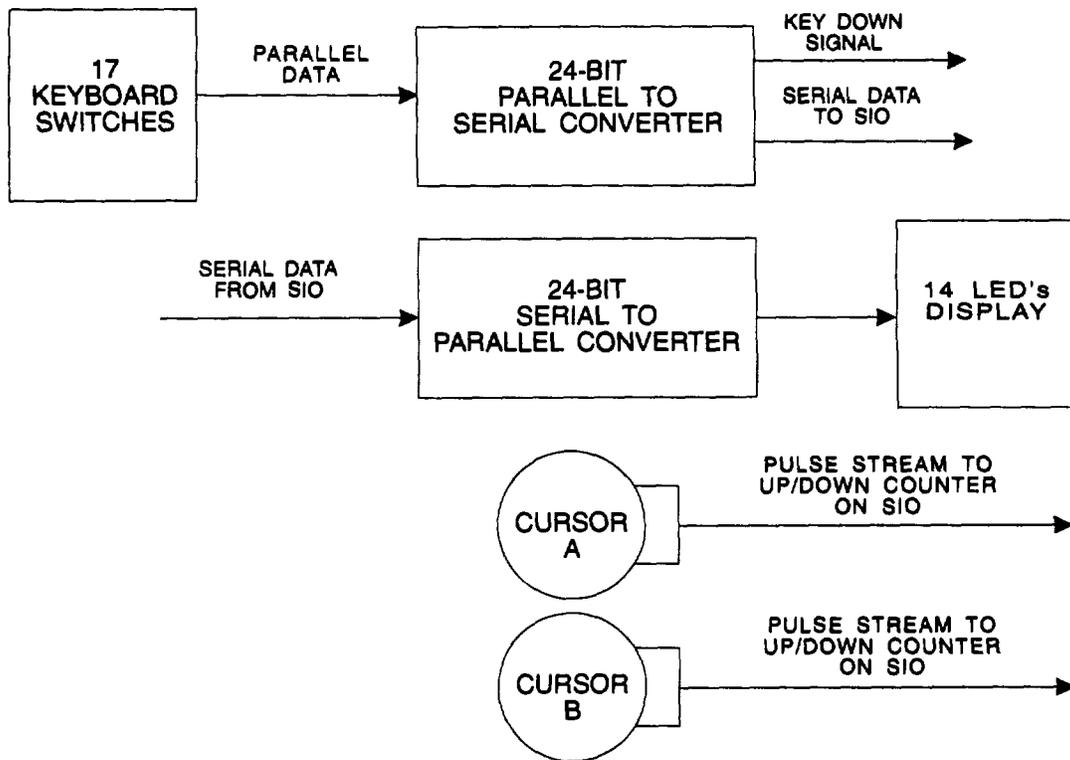

Figure 1-6. 1A2A1 Front Panel CCA Functional Block Diagram.
- e. **1A2A1 Front Panel CCA.** This CCA (fig. 1-6) provides mounting and electrical connection for the user controls and LEDs. Seventeen normally open momentary contact switches form the keyboard matrix. In addition to these 17 inputs, five phantom switches and two jumpers feed the inputs to a 24-bit parallel to serial converter which, under program control, feeds data to the 1A2A5 SIO CCA. Similarly, 24-bit serial data is received from the SIO and is used to drive the 14 visible, 5 unused, and 5 phantom LEDs. Unused inputs to the serializer are locally pulled high through 47k ohm resistors. Unused outputs are left open, although sufficient current limiting resistors are present in local resistor packs if required.